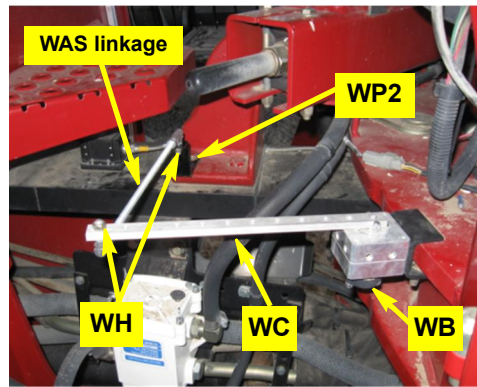

Figure 2d: Installed WAS linkage
- e. Using the remaining hardware **WH**, install the assembled WAS linkage from step 1d between the rod bracket **WP2** and the last hole in the connector arm **WC**. Install the linkage with the swivel stud **WI** downward at the rod link bracket, upward at the connector arm. Leave the swivel stud nuts **WH** loose (Figure 2d).